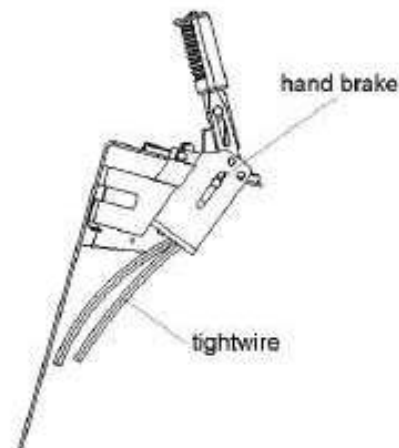

Figure 2-10 Parking brake lever
Brake cylinder exerts the same force to the main brake shoe and auxiliary brake shoe to suppress the brake drum, until the upper end of auxiliary brake shoe contacts against the fixed pin. Then the brake shoe will move towards the rotation direction of the brake drum. After contact against the fixed pin, the friction between friction disk and brake drum will increase. The main brake shoe will exert a pressure larger than the brake cylinder pressure on the auxiliary brake shoe, resulting in a large braking force. See Figure 2-10
2.5 Control device of parking brake (Figure 2-10)